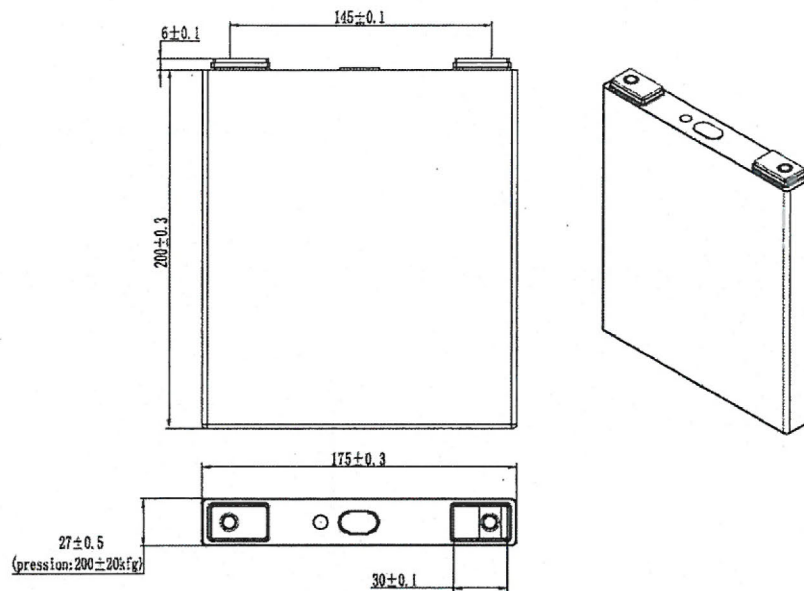

Figure A.1 Battery size diagram
A.1 The battery size is shown in Figure A.1